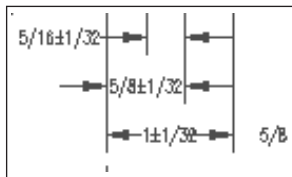

Figure 14-32: A set of continuous dimensions created with Quick Dimension
3. At the `Specify dimension line position, or [Continuous/Staggered/Baseline/Ordinate/Radius/Diameter/datumPoint/Edit/SeTtings]<Continuous>`: prompt, right-click and choose the type of dimension you want to create. Figure 14-32 shows a set of continuous dimensions. The datum point option sets a new base point for baseline and ordinate dimensions. You can press `Enter` to use the type of dimension you used just previously because that shows as the default. AutoCAD immediately creates the dimensions for you.